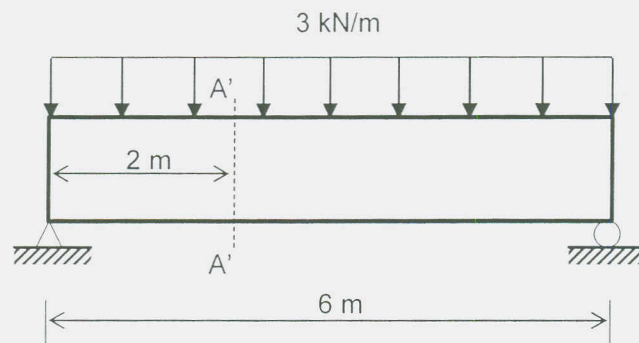

Fig Q4
- (b) Hence, calculate the required radius to prevent yield at Section A'-A' (considering shear stress only) in the simply-supported beam of uniform circular section shown in Fig Q4, under the uniformly-distributed load of 3 kN/m. Use a shear yield stress of 100 MPa. [13 marks]